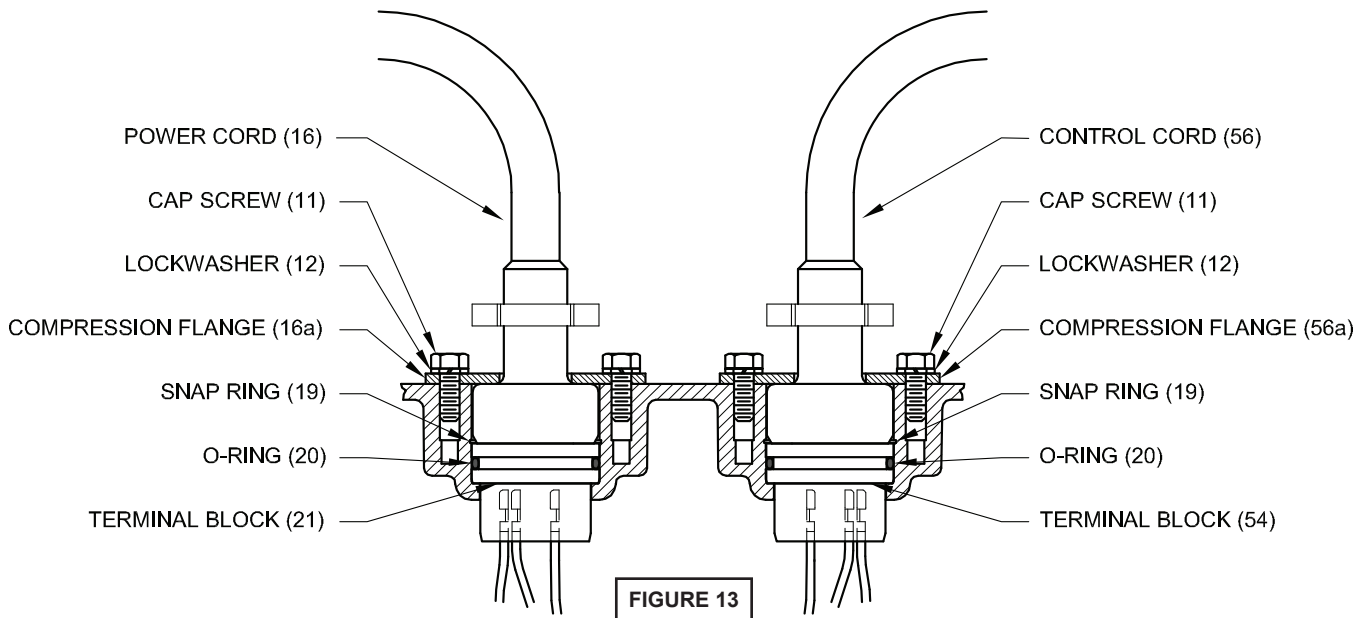

FIGURE 13
Reconnect motor and optional control leads to the underside of the terminal block(s) (21), (54 optional) as shown in Figure 13. Note that the pins are numbered underneath the terminal block. Place o-ring (20) into groove in terminal block and lubricate with dielectric oil.